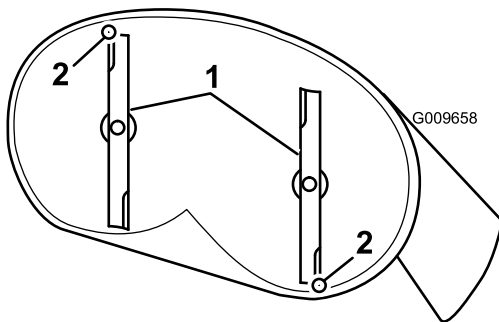

**Figure 56**
4. Carefully rotate the blades so they are facing front to rear (Figure 56 and Figure 57).
5. Measure from the tip of the front blade to the flat surface and the tip of the rear blade to the flat surface (Figure 56).
9. After adjustment, check the front-to-rear slope again, continue adjusting the nut until the front blade tip is 1.6 to 7.9 mm (1/16 to 5/16 inch) lower than the rear blade tip (Figure 56).